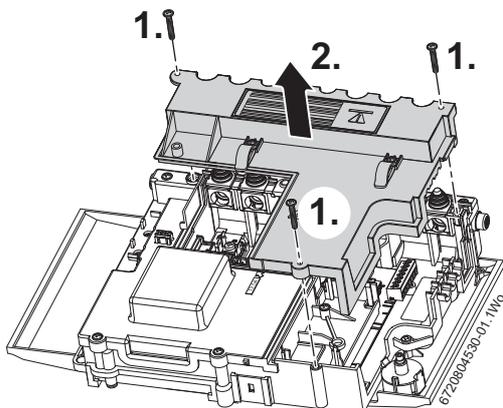

Fig. 50 Removing the connection cover
1. Refer to figure 50 and unscrew the three screws in the connection cover.